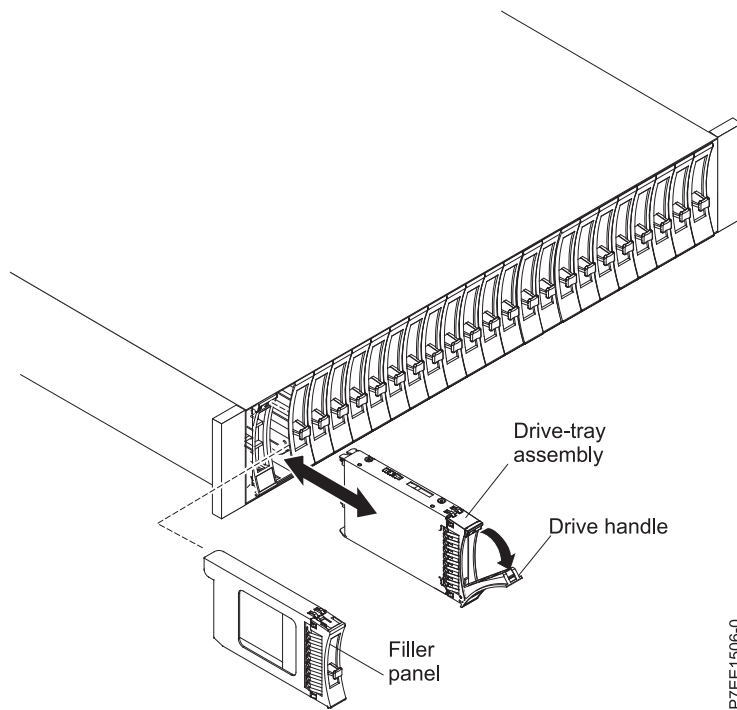

Figure 43. Removing a drive from the 5887 disk drive enclosure
5. Grasp the front of the drive and pull it out from the slot, ensuring that you support the bottom of the drive, as shown in Figure 43.